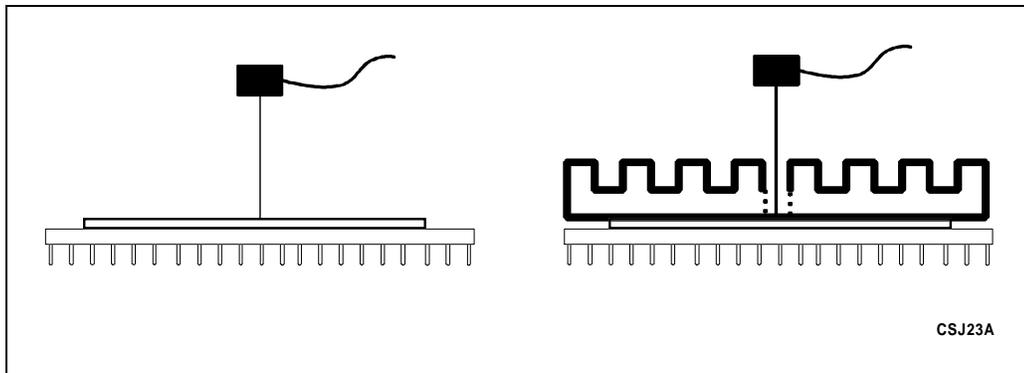

Figure 10-1. Technique for Measuring T_{case}
- The thermocouple should be attached at a 90° angle as shown in Figure 10-1. When a heat sink is attached a hole (no larger than 0.15") should be drilled through the heat sink to allow probing the center of the package as shown in Figure 10-1.